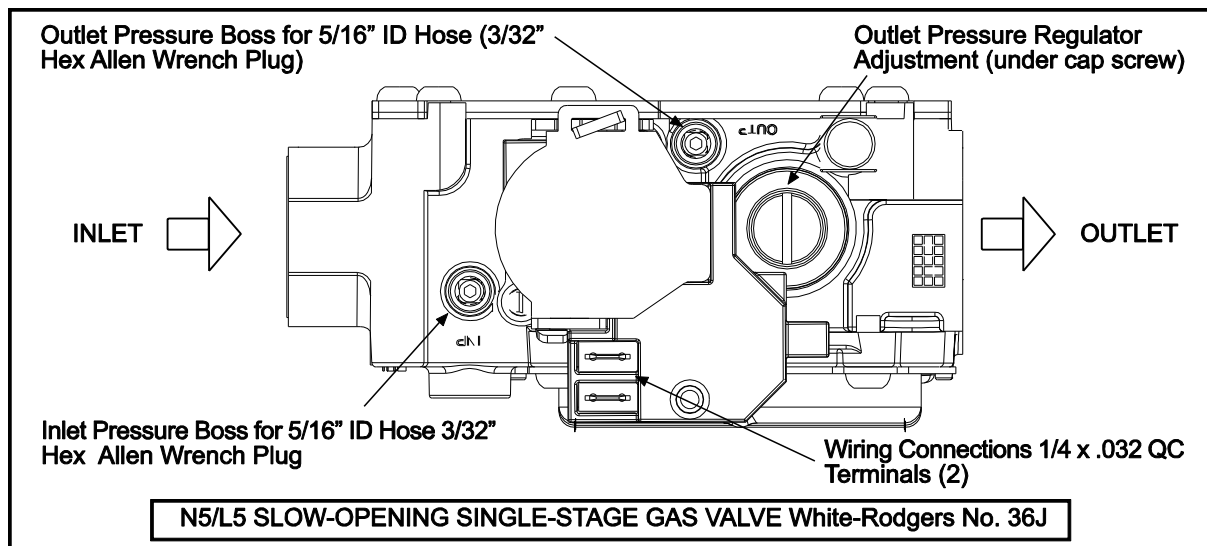

**Figure 1**
2. Turn the pressure test screw (3/32" Hex) in the center of the boss **not more than one turn counterclockwise**. Attach a 5/16" hose and manometer over the tapered outlet pressure boss on the valve (see **Figures 1** and **2** below). If regulator needs to be adjusted, see instructions below.
1. Turn on power and energize the main gas valve. Remove regulator cover screw (see **Figure 1** below). Turn regulator adjustment screw **clockwise** ⤵ to **increase pressure**, or **counterclockwise** ⤴ to decrease pressure. Replace regulator cover screw and tighten securely.